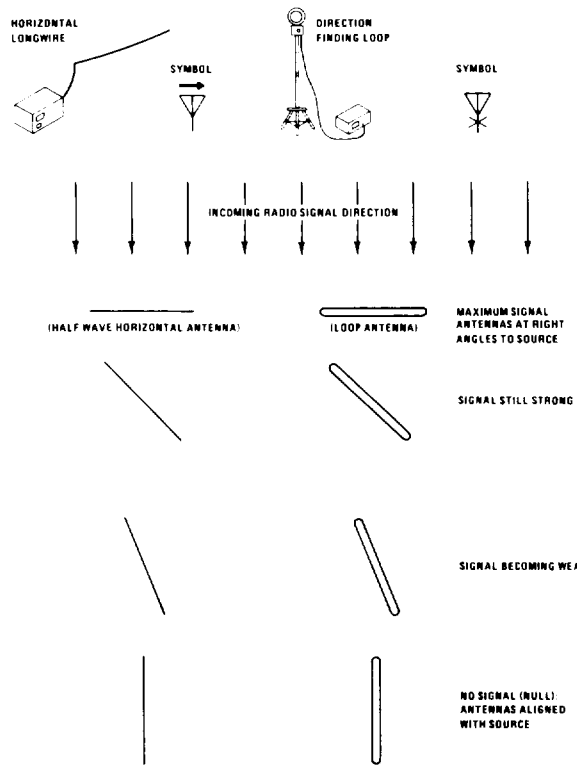

Figure 2-5. Directional Antenna Properties, Longwire and Loop
(1) To set up whip antenna, remove retaining band, unfold antenna, and attach to ANT 1 jack of receiver. The wing of antenna plug fits into slot on receiver case above ANT 1 jack. Flex base of antenna to make antenna vertical.
(2) To set up longwire antenna, select two supporting points, such as trees, to support antenna as far above ground as is practical. (Antenna pedestal may be used as one support.)
(3) Attach longwire antenna to one support. Run longwire antenna horizontally. Attach loose end to second support using nylon cord. Leave enough wire on loose end to reach receiver.
(4) Strip any insulation from loose end of longwire antenna. Connect loose end of longwire antenna to receiver's ANT 1 or ANT 2 connector using appropriate adapter.
(5) Horizontal longwire antennas are directional and usually work poorly when set up in line with the direction of transmission. Change antenna position during operation if necessary. The appropriate df antenna, hand held, may be used to roughly find the best position for the longwire antenna. Figure 2-5 illustrates the relationship between the position of the antenna and the incoming radio signal direction. If possible, align the longwire antenna perpendicular to the incoming radio signal.